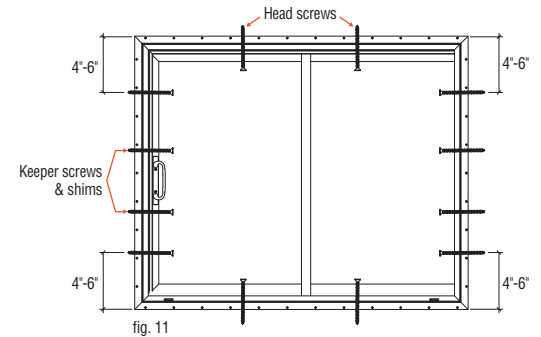

fig. 11
- Pre-drill holes for fastening the door to the rough opening. All fasteners need to be centered inside the interior pocket of the main frame of the patio door. On the lock keeper side of the door frame with a 3/8" drill bit, drill access holes through **one wall of the vinyl framing only** drilled at 4" to 6" down from the head and 4" to 6" up from the sill. On the fixed panel side repeat the same hole placement as on the active side of the door plus two more holes placed evenly from the top and bottom holes (**fig. 11**). Place two more holes for the head centered on the active and inactive panels. In the center of all the pre-drilled access holes drill a 1/8" pilot hole completely through the main frame.